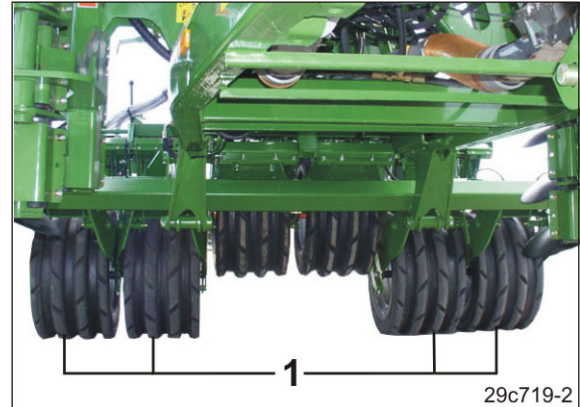

Fig. 174
2. Raise the machine fully by moving the integrated running gear (Fig. 174/1) out completely.